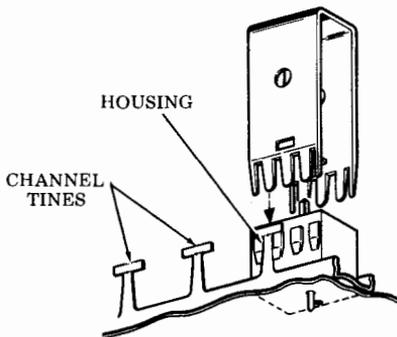

Fig. 5—Spacebar Housing
- (b) Place 346257 tool over either spacebar housing and press downward. When the tool bottoms and embossed projections snap into notches on housing, squeeze and pull back on the tool to lift housing up (Fig. 5).